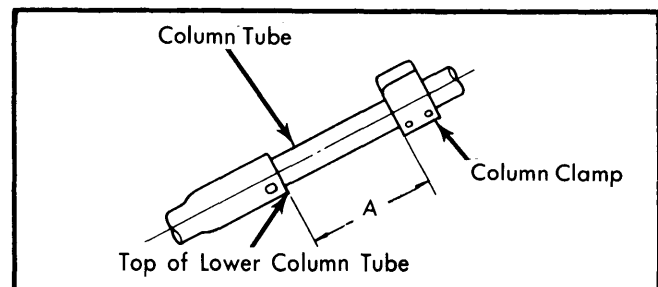

Fig. 2 Column Tube Measurement Specification
4) On all models except 810, measure distance between column clamp and top end of lower column tube. Distance should be 7.04" (179 mm) for 200SX and B210, or 7.25" (184 mm) for 510 models. See Fig. 2, measurement A.